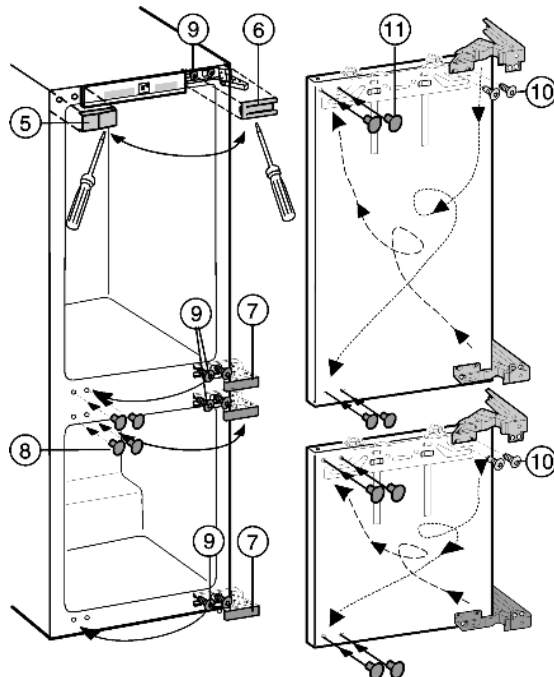

Fig. 4
- Lift off the covers Fig. 4 (5,6,7,8) forwards using a flat-blade screwdriver.
- Loosen the top and bottom screws Fig. 4 (9) on the appliance body, without removing them.
- Transfer the screws Fig. 4 (9) to the opposite side and screw them in a little.
- Undo the screws Fig. 4 (10) and change over the hinges diagonally.
The screws Fig. 4 (10) are self-tapping: use a cordless screwdriver.
- Place plugs Fig. 4 (11) in the now unused fastening holes.
- Attach the doors to the prefitted screws Fig. 4 (9) and tighten the screws.
- Re-fit all the covers Fig. 4 (5,6,7,8).